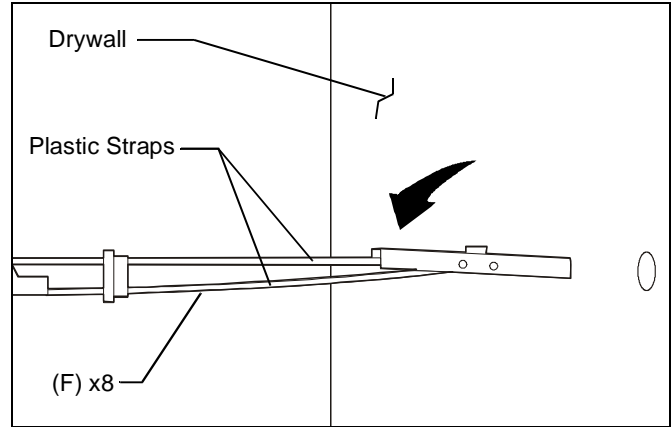

Figure 4
6. Hold metal channel on anchor (F) flat alongside plastic straps and slide channel through hole. (See Figure 4)